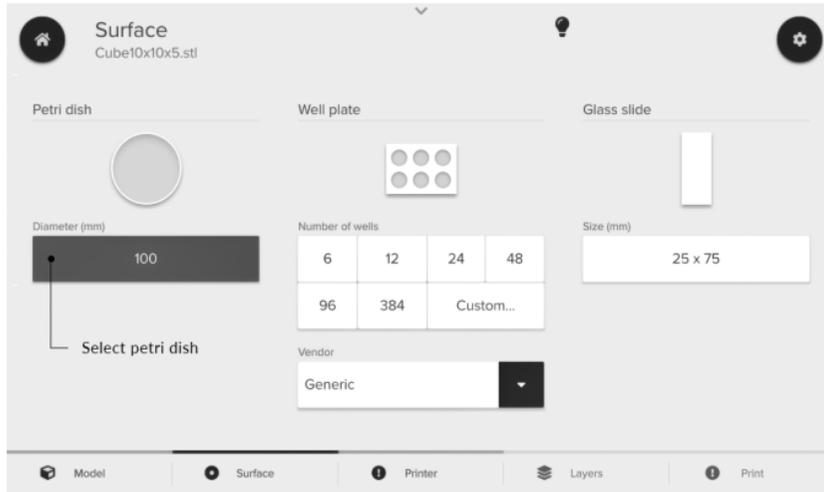

Figure 13: Select print surface from the Surface menu.
- Select the surface to print on and proceed to the next menu (Figure 13).